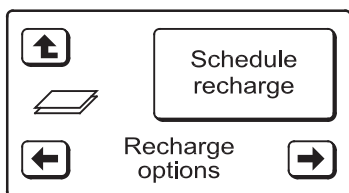

FIG. 39
5. Press the button next to ON, then press the RETURN (↑) button. The display will go back to the screen shown in Figure 39.